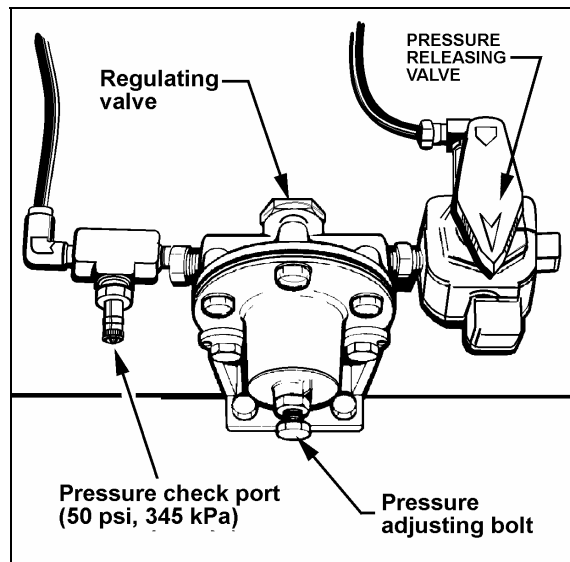

FIGURE 1: REGULATING VALVE
2. Release pressure from air bellows by means of belt tensioning pressure releasing valve. This valve is mounted in engine compartment; near the auxiliary oil tank on H3 series vehicles and above the engine doors on XL series vehicles (refer to fig. 1).
Release pressure from air bellows by means of belt tensioning pressure releasing valve. This valve is mounted in engine compartment; near the auxiliary oil tank on H3 series vehicles and above the engine doors on XL series vehicles (refer to fig. 1).